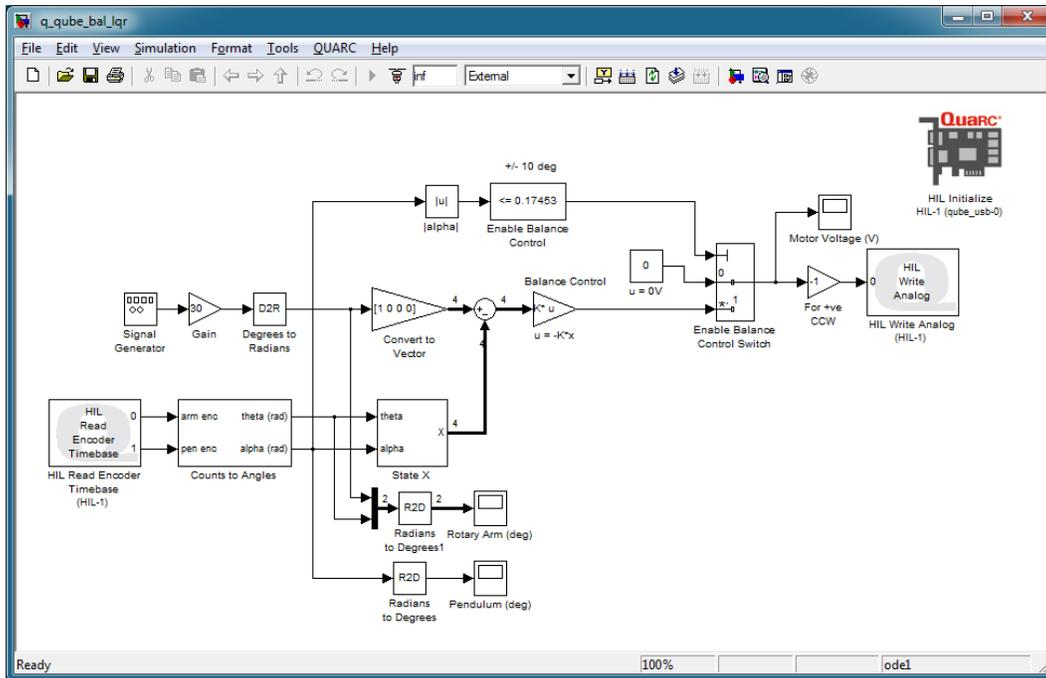

Figure 2.1: Simulink® model used with QUARC® run optimized balance controller
Construct a QUARC® controller similarly to Figure 2.1 that balances the pendulum on the QUBE-Servo rotary pendulum system using a generated control gain K .
- Using the **Simulink**[®] model you made in the Balance Control laboratory experiment, construct the controller shown in Figure 2.1:
- Using the angles from the Counts to Angles subsystem you designed in the Balance Control laboratory experiment (which converts encoder counts to radians), build state x given in Equation 1.2. In Figure 2.1, it is bundled in the subsystem called *State X*. Use high-pass filters $50s/(s+50)$ to compute the velocities $\dot{\theta}$ and $\dot{\alpha}$.